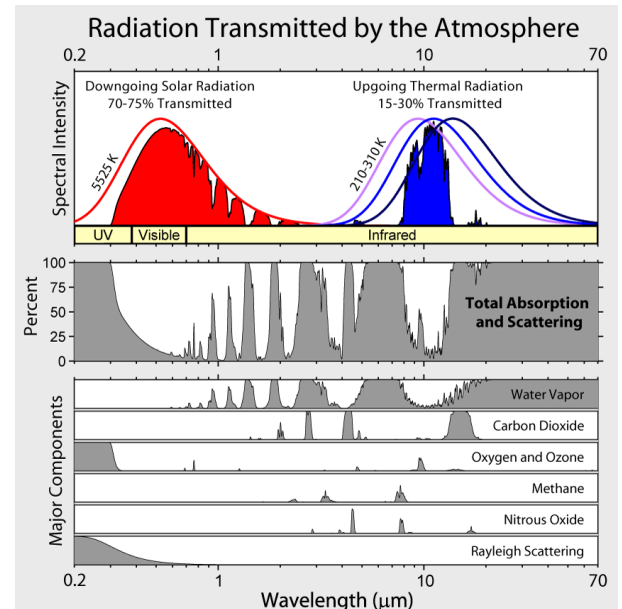

Figure 1: Radiation Transmitted by the Atmosphere³
For example, consider how UV, Visible, and Infrared radiation (IR) are absorbed by the various constituents of the Earth's atmosphere (Figure 1). In particular, you can see that carbon dioxide molecules have three regions of absorption in the IR spectrum. The way in which the molecule absorbs the energy contained in the IR photon, is that it transfers this energy into kinetic energy through vibrational motion⁴. Much like a person pushing someone on a swing, if the energy in the IR photon “pushes” the oxygen and carbon atoms according to their natural rhythm then the movement of these atoms can grow and be sustained. However, if the energy is associated with a different frequency of “pushing” then the impulse is out of sync with the vibrational movement of the atoms and thus the energy of the photon is not absorbed or converted into kinetic or another form of energy. This natural rhythm or movement of CO₂ depends on the atomic structure of that molecule.